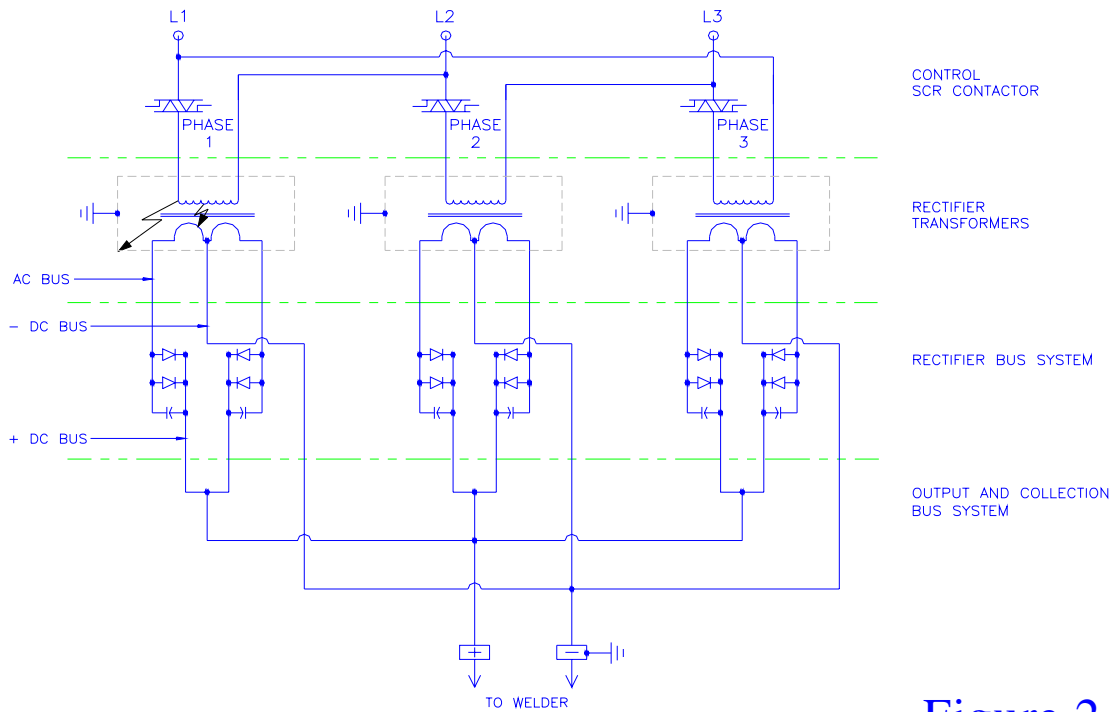
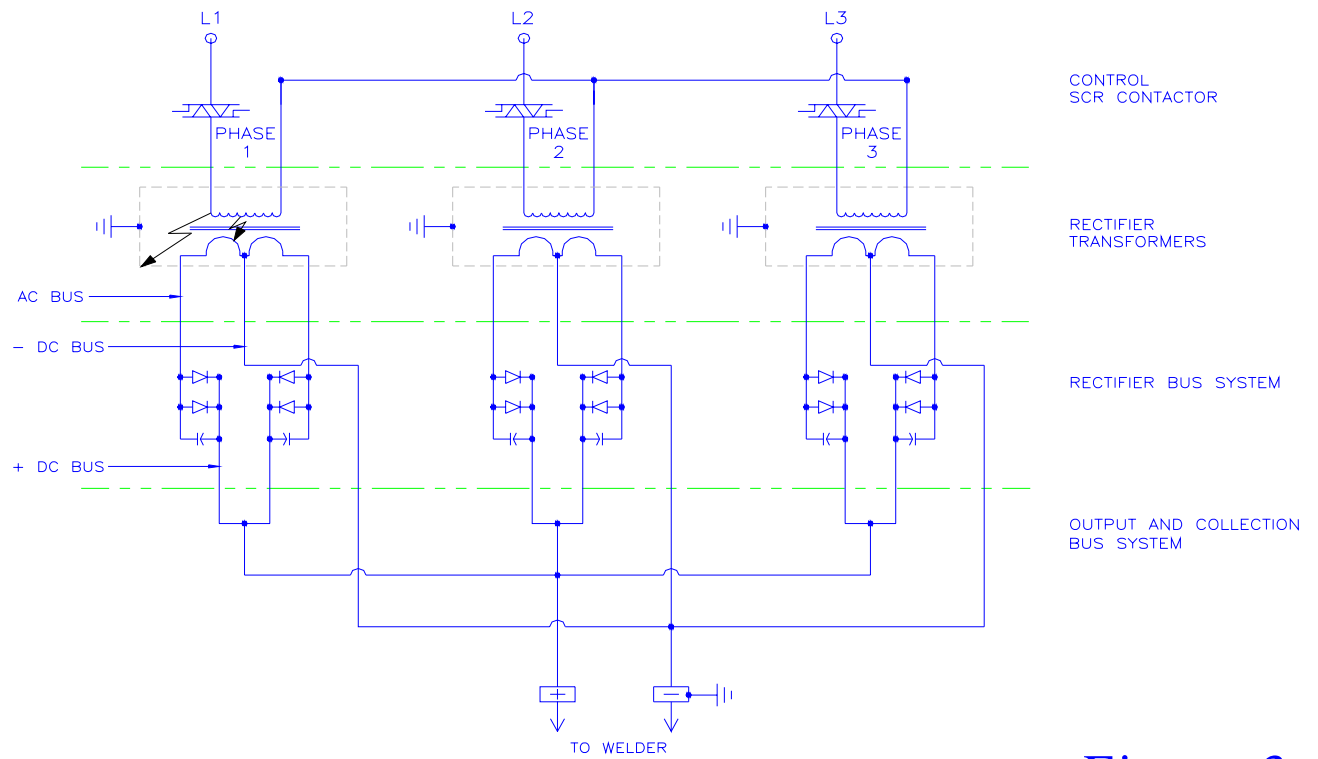

Figure 2
Figure 3
2. Figure 2 (page 6) shows a DC Power Supply with a primary to secondary or primary to case fault in the transformer (Primary DELTA connected).
3. Figure 3 (page 7) shows a DC Power Supply with a primary to secondary or primary to case fault in the transformer (Primary WYE connected).
- c. A transformer fault in form of a primary to secondary or primary to case short (figure 2 & 3). This assumes a properly grounded machine including the secondary circuit, a grounded power system and a WYE connected primary (figure 3). Note: In a DELTA connected primary and the SCR contactors installed in the DELTA, one side of the primary windings is always connected to the line. Thus a short circuit exists without the control being initiated leading to tripping of the over current protection (figure 2).
1. The insulation resistance between primary and secondary as well as primary to case must be tested. For this test a 500 or 1000 volt DC insulation tester should be used. Disconnect the power supply from the weld control. Remove WYE connection in WYE operated power supplies (figure 3 or 4). In DELTA operated power supplies the primaries should be separate after disconnecting the power supply from the weld control (figure 2). Any component such as primary terminal boards, switches etc. become part of the insulation test unless they are disconnected from the transformer.